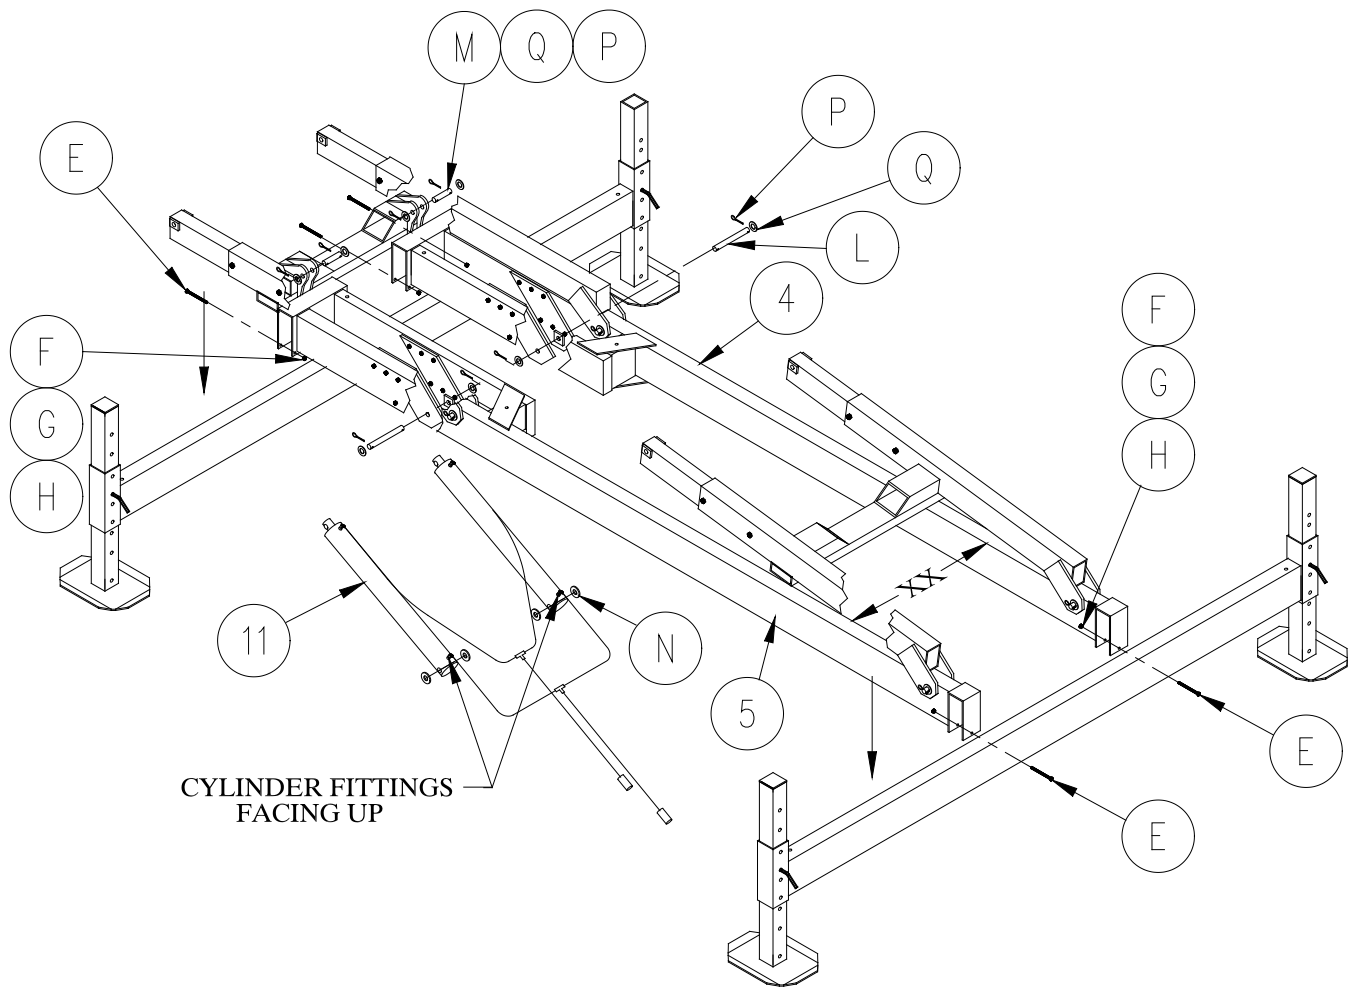

Figure 3-4.
1. **Refer to Figure 3-4.** Install the hydraulic cylinders (11) onto the main frame. Place the cylinders in position so that the hydraulic fittings are facing upward. Place the cylinders in position and insert pin (L) through only one cylinder support plate. Install flat washer (Q) between the cylinder and the cylinder support plate. Insert clevis pin through the cylinder body. Insert another flat washer (Q) between the cylinder and the other support plate.
1. Refer to Figure 3-4. Install left side main frame (4) and right side main frame (5) onto each leg assembly. Center the main frames onto the leg assembly as close to center as possible. Also set left and right frames to a dimension of 31-1/2" inside frame as shown (XX) on figure 3-4.